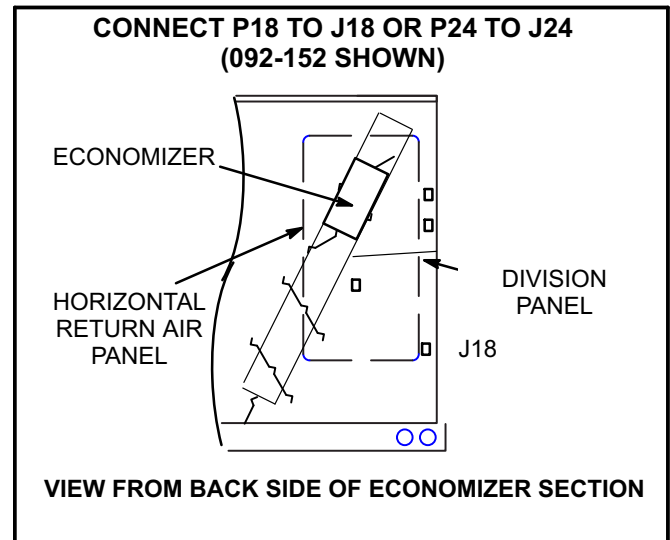

FIGURE 15
- 3- Reach through fan orifice and connect power exhaust fan P18 plug to unit J18 jack. J18 is located on the wall between the economizer and compressor section. See figure 15.